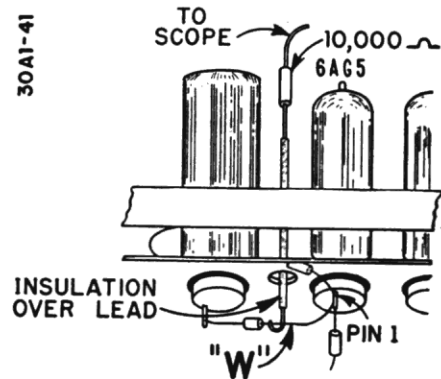

Fig. 3-10. Connecting Test Equipment to Point "W".
- Connect oscilloscope through 10,000 ohm resistor to point "W" (Figure 3-10). Keep oscilloscope leads away from chassis.